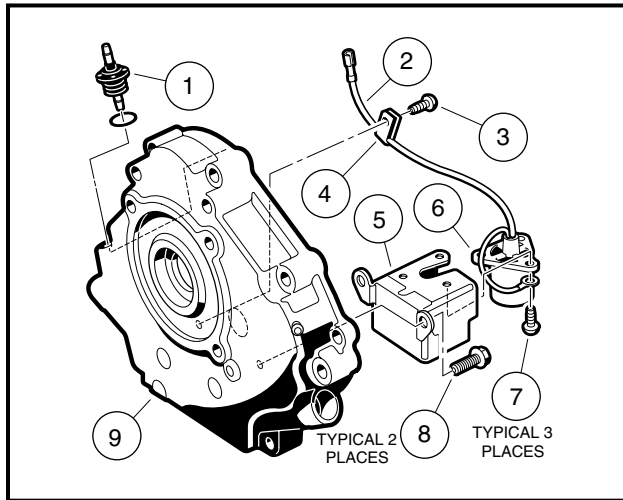

Figure 3-38 Oil Level Sensor
1. Disconnect the oil level sensor wire (2) from the cord connector (1) (**Figure 3-38, Page 3-21**).
2. Remove screw (3) from the wire clamp (4).
3. Remove the two mounting screws (8) from inside of the crankcase cover and remove the oil level sensor and bracket.
4. Remove the three screws (7) holding the sensor (6).
1. Install a new sensor (6) into bracket (5) and secure with three screws (7) and tighten to 17 in-lb (1.9 N-m) (**Figure 3-38, Page 3-21**).
2. Position the sensor and bracket on inside of crankcase and install two mounting screws (8).
3. Connect sensor wire (2) to cord connector (1).
4. Install screw (3) through wire clamp and into crankcase cover. Tighten to 30 in-lb (3.4 N-m).